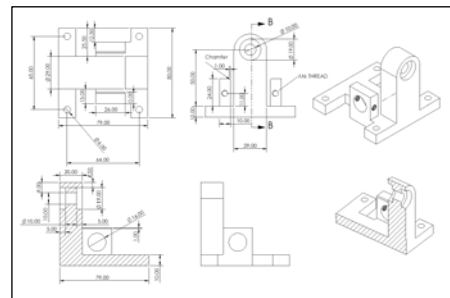

Fig 1: Gear support column
- 2) Design the structure and gear supporter (Figure 1). Then fabricate the part at local metal workshop.